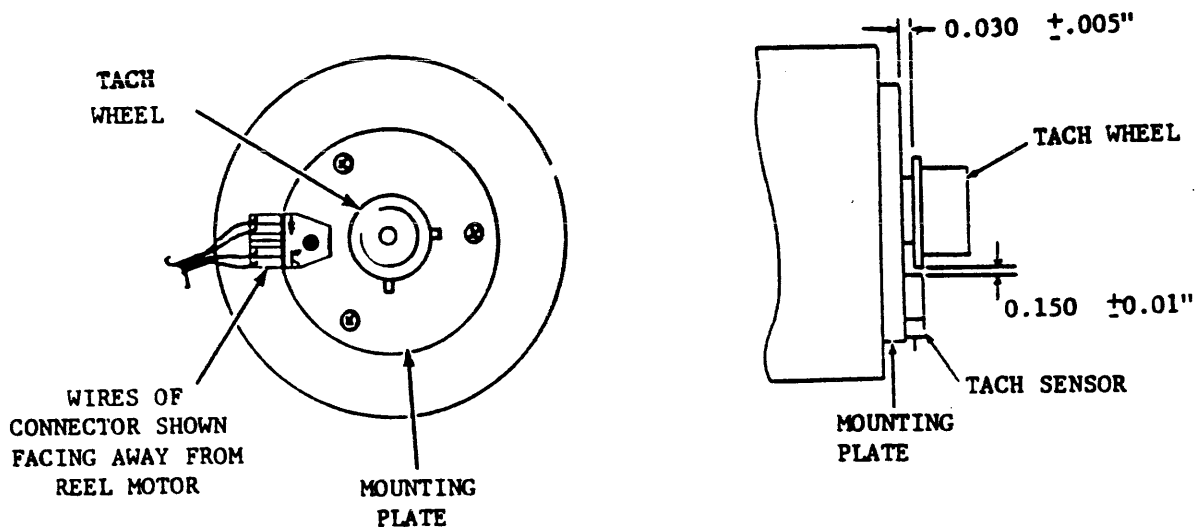

Figure 5-11. TACH WHEEL/SENSOR ALIGNMENT
2. Assemble the sensor and tach wheel (from steps 6 and 7 of Removal) onto the motor mounting plate and shaft as shown in Figure 5-11 and adjust per paragraph 5.3.10 of Replacement.
5. Attach connector W3P5 to the tach sensor pins as shown in Figure 5-11.
Replacement (See Figure 5-11)
7. Attach connector P1 to the sensor pins. See Figure 5-11 for pin orientation.